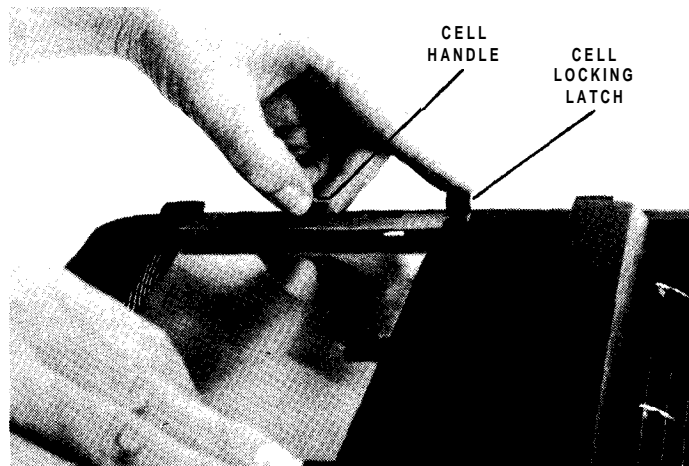
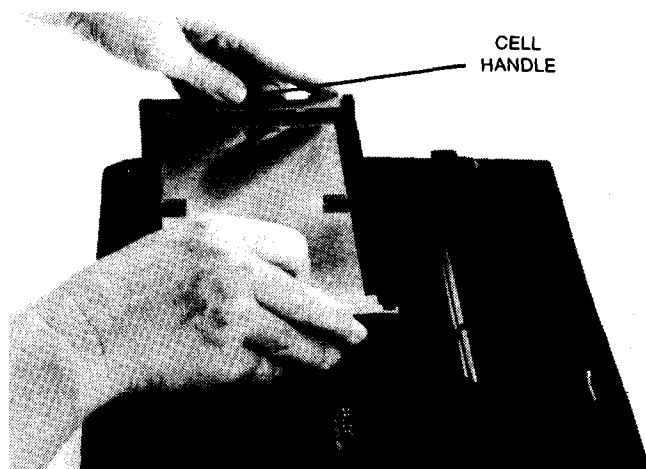

Figure 5
Figure 6
- C. Push cell locking latch (Figure 5) away from cell while lifting cell out of the cabinet using the two small handles on the top of the cell (Figure 6).